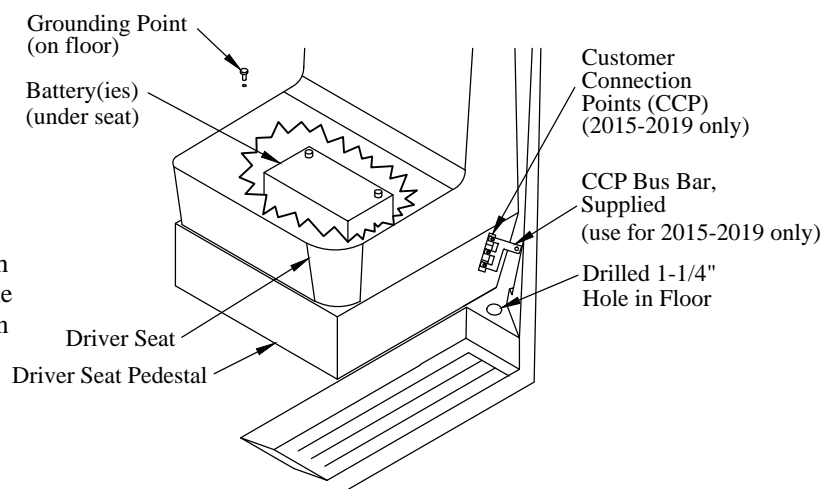

Figure 12: Power connection locations.
4. **Drill** and **Deburr** a 1-1/4" hole in the floor next to the driver seat in the location shown (Figure 12).
10. **Cut** the negative(-) lead to the length required to reach a vehicle ground point on the floor between the front seats (Figure 12).
19. **Remove** the plastic cover from the CCP on the driver seat pedestal (Figure 12).
20. **Install** the supplied bus bar on the CCP studs using three (3) supplied M5 nuts and star washers.